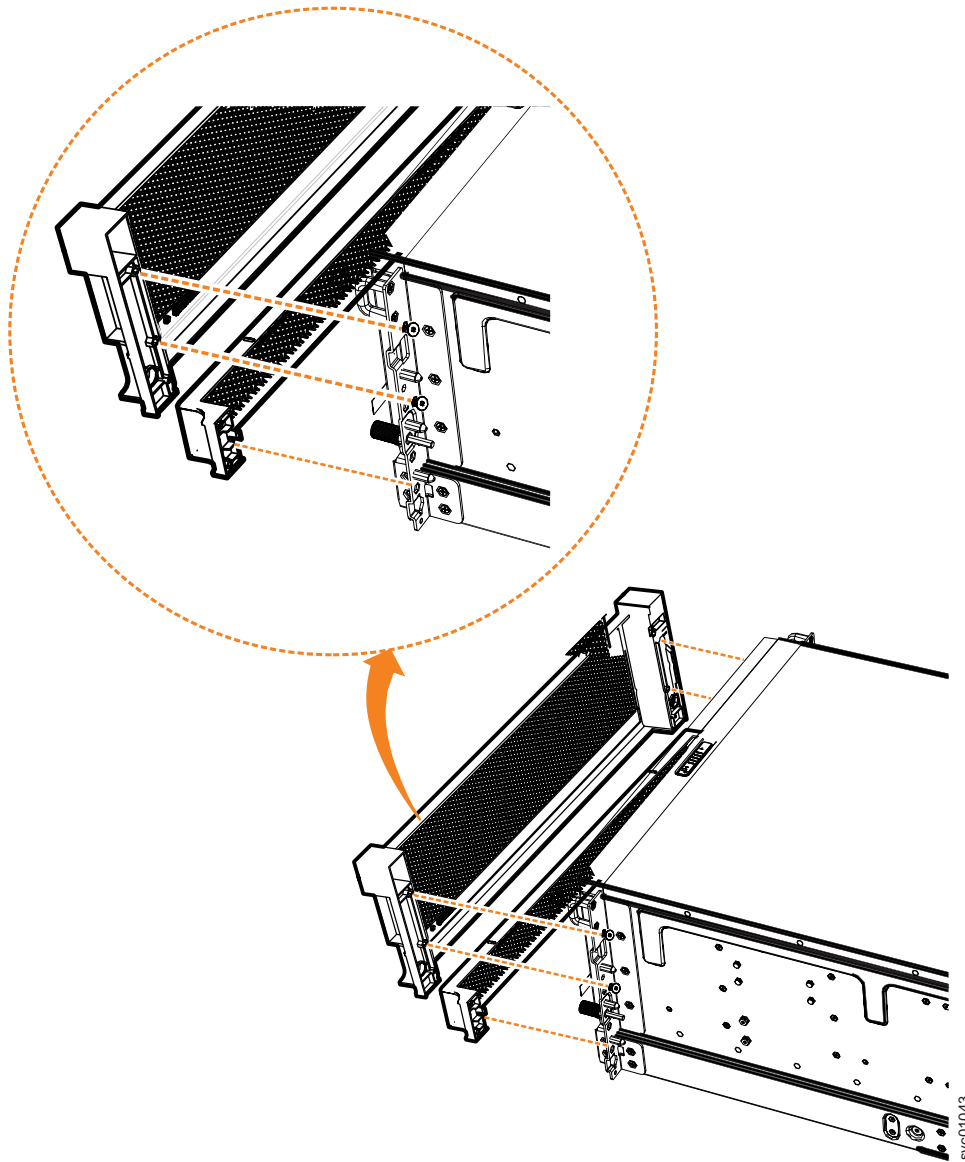

Figure 117. Replace fascia components on the expansion enclosure
2. Align the front 4U fascia with the enclosure so that the thumbscrews go through the holes on each side. As Figure 117 on page 253 shows, this action aligns the screw holes on the back of the fascia with the screw holes on the front flange of the enclosure.
4. Reattach the bottom 1U fascia that covers the power supply units (PSUs). Align the fascia with the enclosure and gently push it until it clicks into place on the chassis, as shown in Figure 117 on page 253.